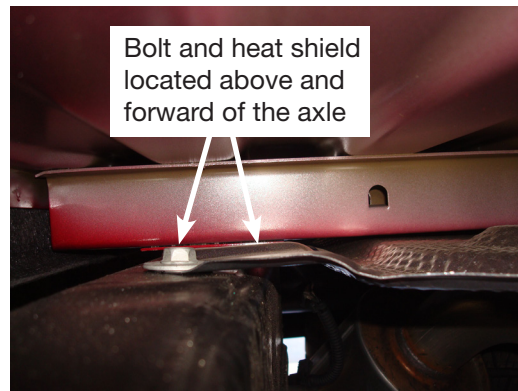

fig. 19
5. Using a ratcheting wrench, remove the bolt that holds the heat shield on the frame above and forward of the axle. Set the bolt aside (fig. 19).
- For models without a heat shield as shown in Figure 19, set a U-bolt (L) into position around the frame (Fig. 20) and insert the U-bolt (L) through the holes in the upper bracket forward of the axle (Fig. 21).